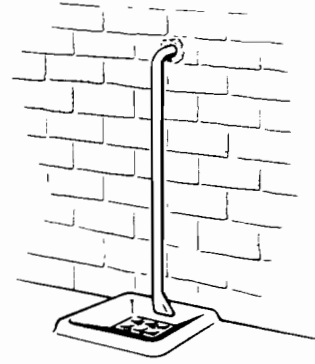

FIG. 26 PRESSURE RELIEF VALVE DISCHARGE
8. PRESSURE RELIEF VALVE (Fig. 26)